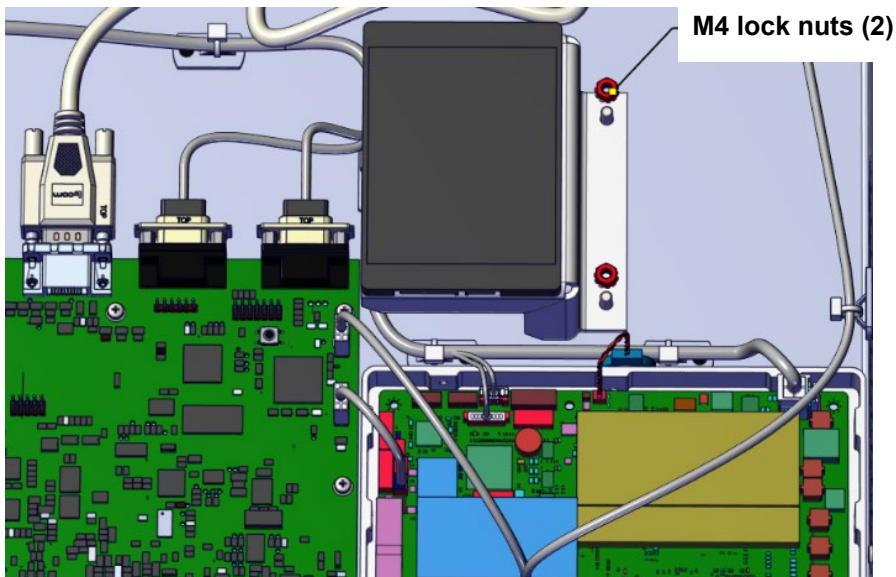

Figure3: SSD Mounting Bracket Removal
(h) Remove and retain the two (2) M4 lock nuts that secure the SSD mounting bracket to the chassis (see Figure 3). Remove and retain the SSD mounting bracket. Dismount the SSD from the SSD mounting bracket.